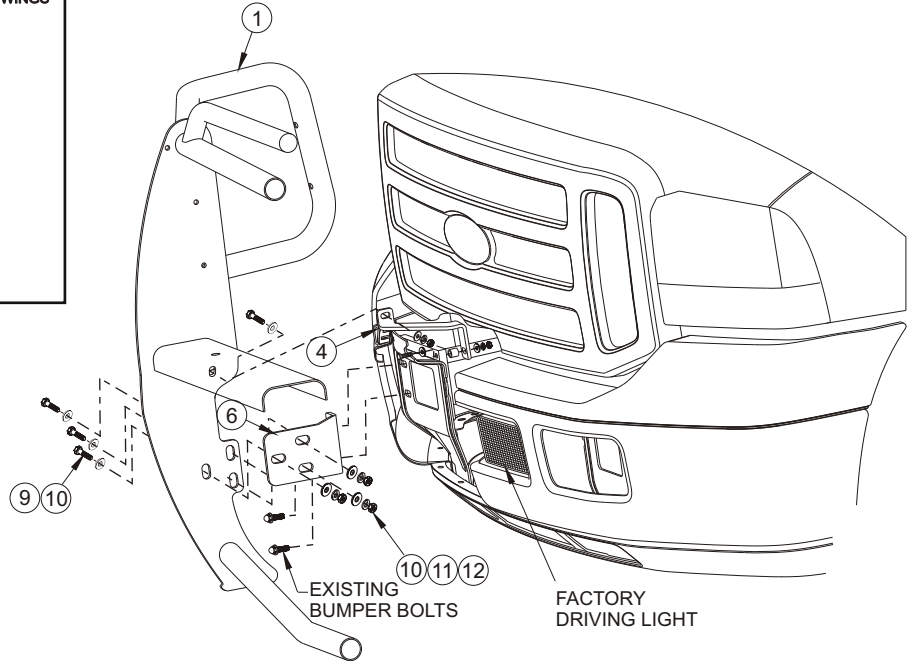

FIGURE 2
- STEP 3. Loosen front bumper bolts (approximately 3/8") while pushing bumper toward vehicle to help prevent retaining clips from rotating beneath the bumper. Attach bottom brackets as shown. Leave bracket loose enough for adjustment. **SEE FIGURE 2.**